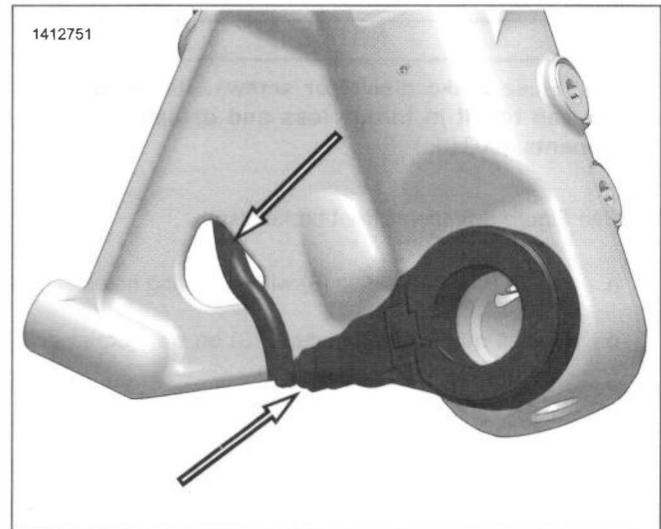

Figure 3-4. Front WSS Routing
- b. Position front wheel (2) between front forks.
- c. See Figure 3-4. Position wheel speed sensor as shown.